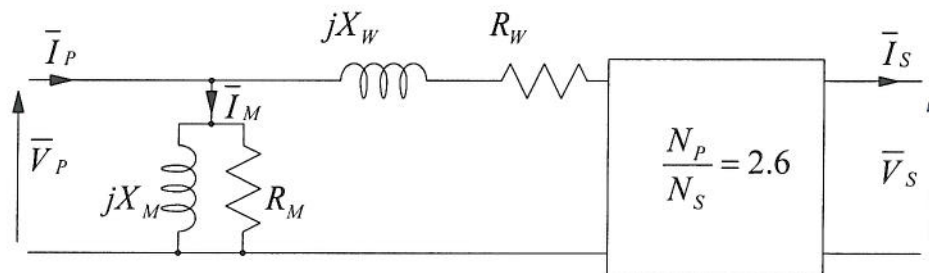

Figure Q4
- (b) A transformer with a turns-ratio of 2.6:1 is represented by the equivalent circuit shown in figure Q4 with the parameter values noted below.